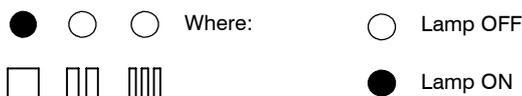

Fig. 7
- 8 The lamps F should give the indication as in Fig. 7 (useful output, first step). If not, press the reset button repeatedly to obtain it.